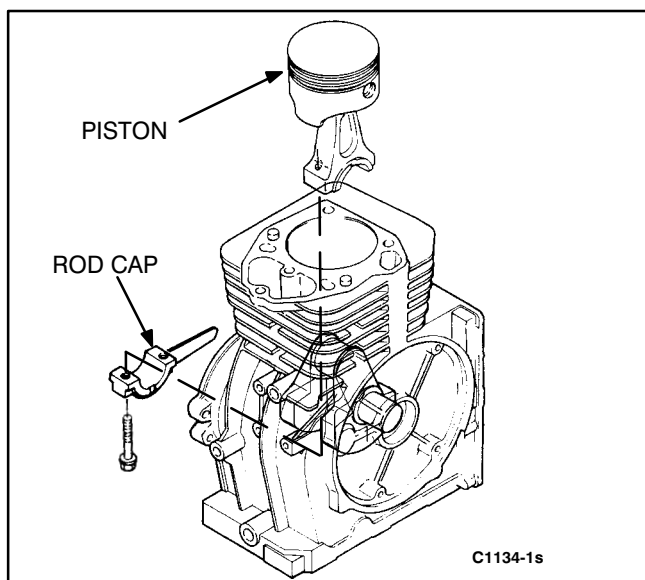

FIGURE 10-18. PISTON REMOVAL
2. Remove the rod cap from the rod and push the piston assembly out the top of the cylinder (Figure 10-18). Be careful not to scratch the crank pin or the cylinder wall when removing the piston.